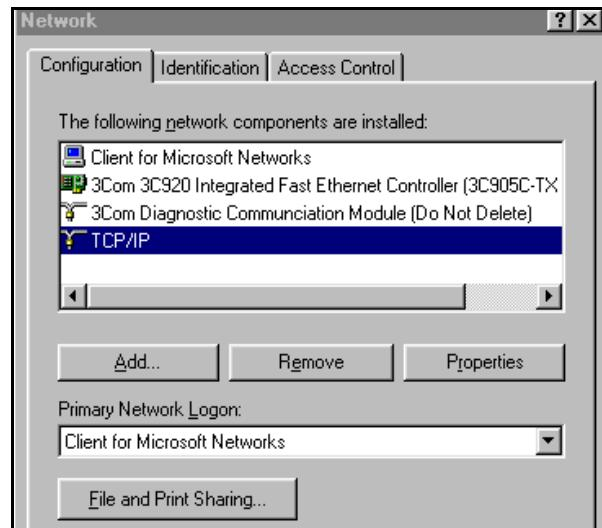

Figure 13-51 Network Window
3. Click on *Configuration Tab* in “Network” window (see Figure 13-51), and scroll down to Laptop TCP/IP Ethernet Adapter. Select *Properties*.